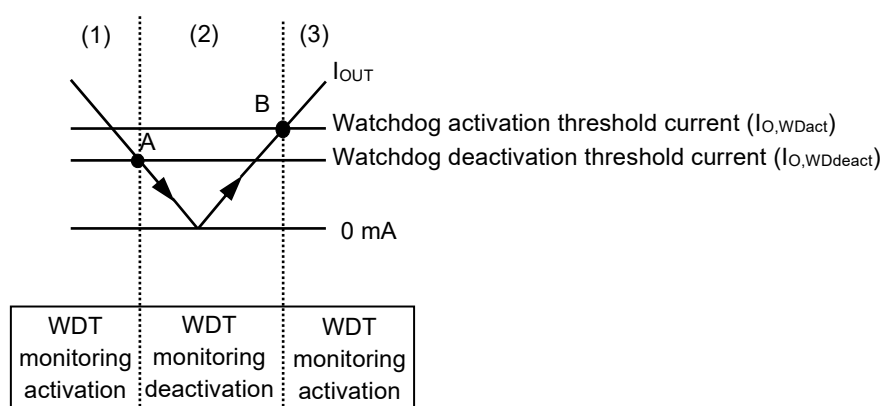

Figure 45 Autonomous Watchdog Operation Function
- (1) When  $I_{OUT}$  of the regulator is the watchdog activation threshold current ( $I_{O,WDact}$ ) or more, the input voltage ( $V_{WDact}$ ) of comparator (C1) is higher than the reference voltage ( $V_{ref}$ ), and the output of C1 is "H". At this time, the watchdog timer activated.
- (2) When  $I_{OUT}$  decreases to the watchdog deactivation threshold current ( $I_{O,WDdeact}$ ) (point A in **Figure 45**) or less,  $V_{WDact}$  decreases to  $V_{ref}$  or less and the output of C1 is "L". At this time, the watchdog timer deactivates the monitoring. Even if  $I_{OUT}$  increases, the watchdog timer continues the monitoring deactivation when  $I_{OUT}$  is within less than  $I_{O,WDact}$ .
- (3) If  $I_{OUT}$  further increases to  $I_{O,WDact}$  (point B in **Figure 45**) or more,  $V_{WDact}$  increases to  $V_{ref}$  or higher and the output of C1 is "H". And then, the watchdog timer initiates the monitoring activation.